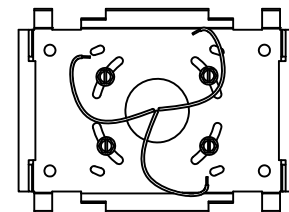

FIGURE. 3
4. PLACE GASKET OVER JUNCTION BOX OPENING. SECURE LUMINAIRE MOUNTING PLATE (SUPPLIED) TO JUNCTION BOX TEMPORARILY USING JUNCTION BOX SCREWS. MAKE SURE MOUNTING PLATE'S LONGEST SIDES ARE RUNNING HORIZONTAL, NOT VERTICAL. SEE FIGURE 3.